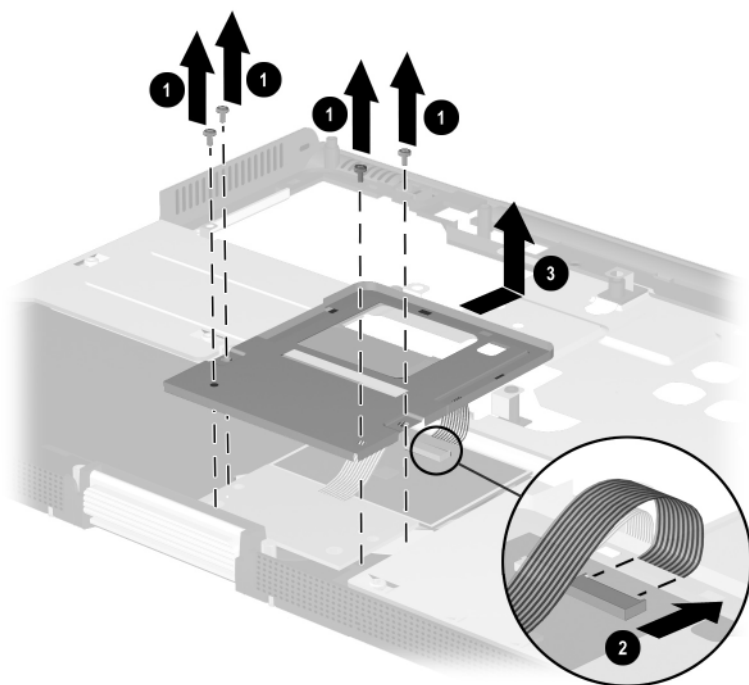

Figure 5-27. Removing the TouchPad
2. Remove the four PM2.0 \times 4.0 screws ❶ that secure the TouchPad bracket to the top cover (Figure 5-27).
3. Disconnect the TouchPad cable ❷ from the low insertion force (LIF) connector on the TouchPad.
4. Slide the TouchPad bracket toward the back of the top cover ❸.
5. Lift the TouchPad bracket straight up ❹ and remove it.